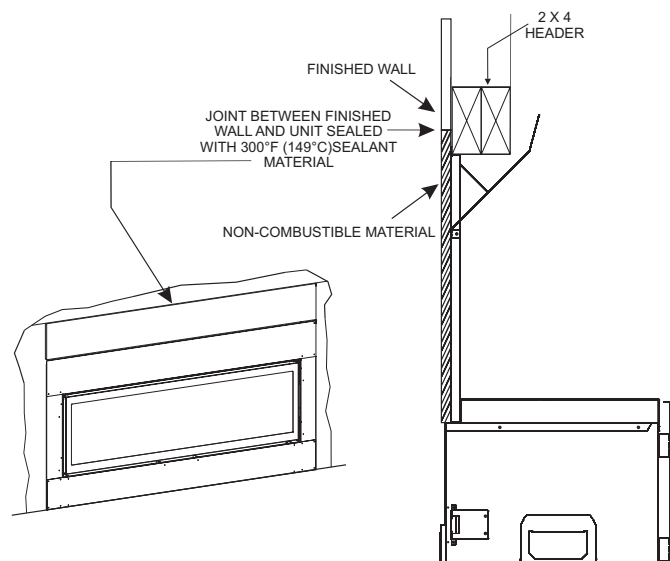

Figure 32
**NOTICE:** For finishing to top of fireplace, refer to **Figures 32 and 33**.